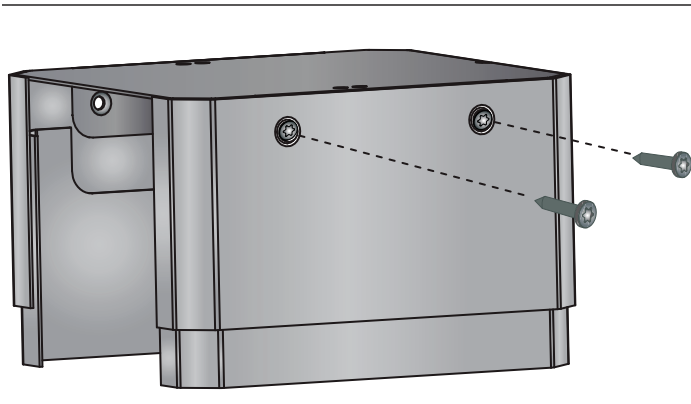

Figure 36: Leg Cover Mounting Holes
- Remove the screws securing the leg covers (see *Figure 36: “Leg Cover Mounting Holes”*). Dismount the leg covers from the extruded dimples.
- Mount the Toe Kick Panel on both sides of the unit into the extruded dimples using the (4) T-20 Torx drill point screws provided.